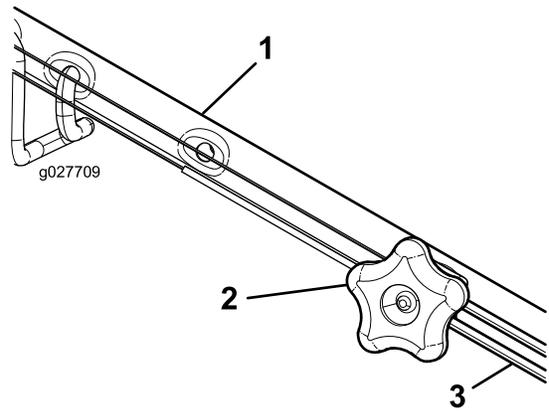

Figure 31
- Turn the adjustment knob counterclockwise to loosen the cable adjustment (Figure 31).
- Adjust the tension on the cable (Figure 31) by pulling it back or pushing it forward and holding that position.